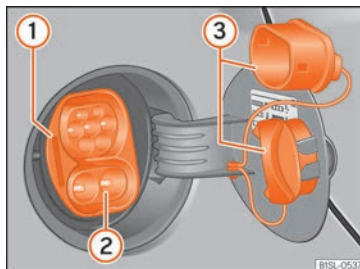

Fig. 152 Behind the cover of the battery charging socket: charging socket (schematic representation).
Key to » Fig. 152
- With the vehicle unlocked, press the cover of the battery charging socket, located on the side panel, to open it » Fig. 152.
- Remove the two protective caps from the charging socket » Fig. 152 ③. To remove the bottom protective cap, first remove the top cap.
- Plug the charging connector into the charging socket » Fig. 152 ②.
During the charging, the charging process display » **Fig. 152**  flashes green. The control lamp  flashes yellow on in the instrument panel display. Do not unplug the charging connector.
- Place the protective caps on the charging socket » **Fig. 152** .